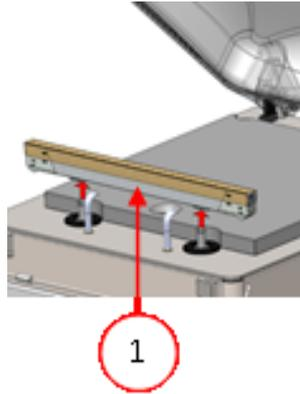

Figure 19: Removing the Sealing Bar
1. Remove the sealing bar by lifting it from the cylinders. See *Figure 19: Removing the Sealing Bar* on page 40.